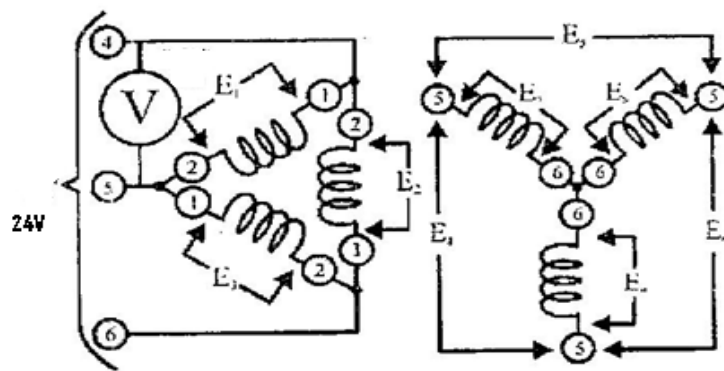

Figure 3.4. Delta-Wye (Δ -Y)
- a) The circuit shown in Figure 3.4 has three transformers connected in a delta wye configuration.